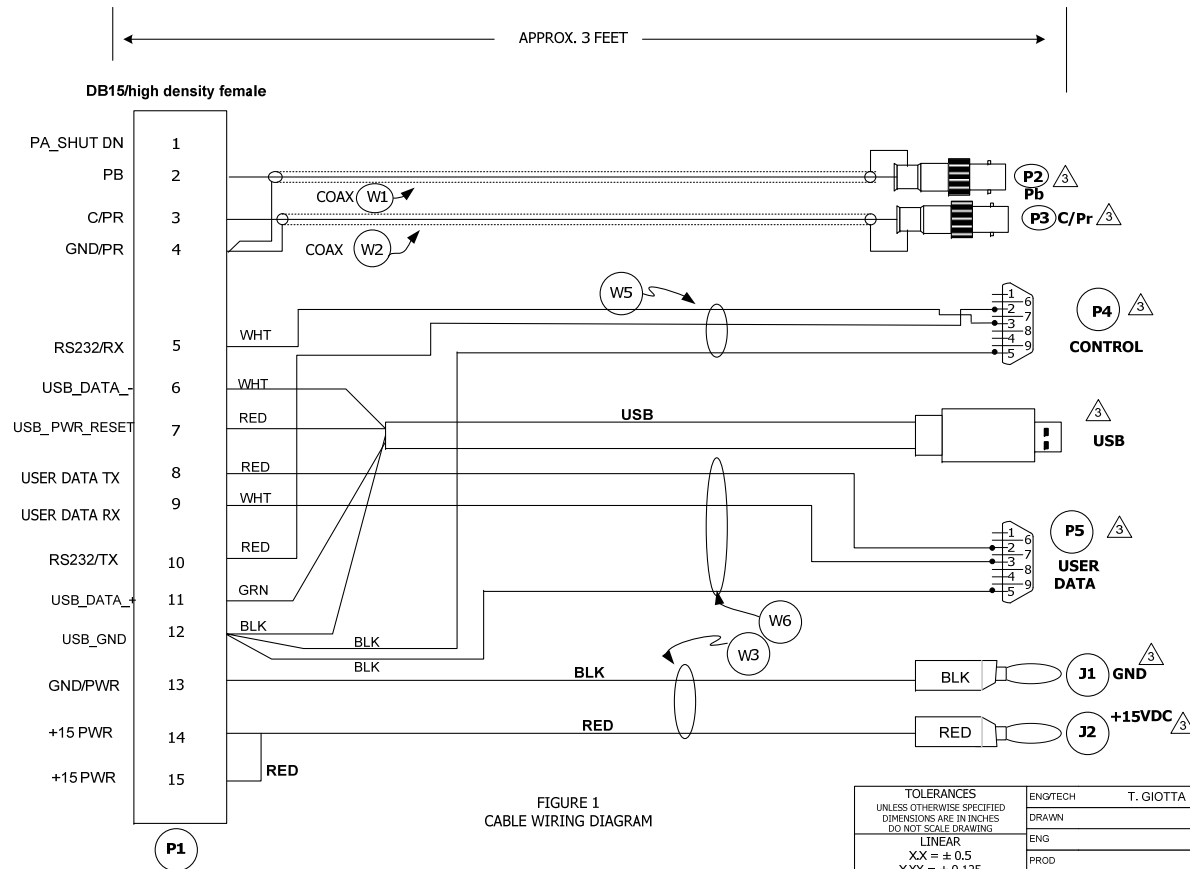

FIGURE 1
4. REFERENCE SHEET 1, FIGURE 1 FOR CABLE WIRING DIAGRAM.